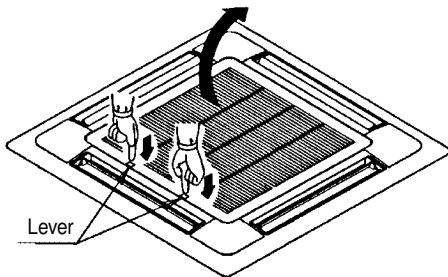

Fig. 1
(1) Remove the suction grille from the decoration panel.
- ① Push the suction grille lever inward and lift up the lever side (Refer to Fig. 1)